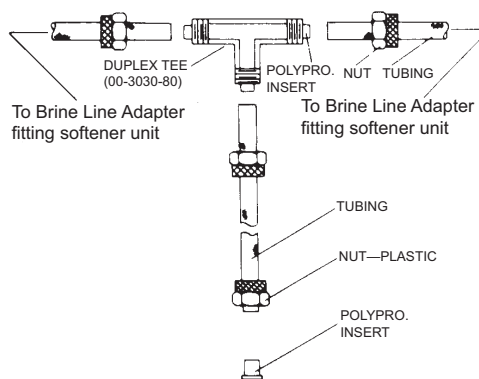

Figure 16. Brine system assembly.
1. Cut off approximately two inches of brine tubing, then attach the tubing to the brine safety valve. See Figure 16.